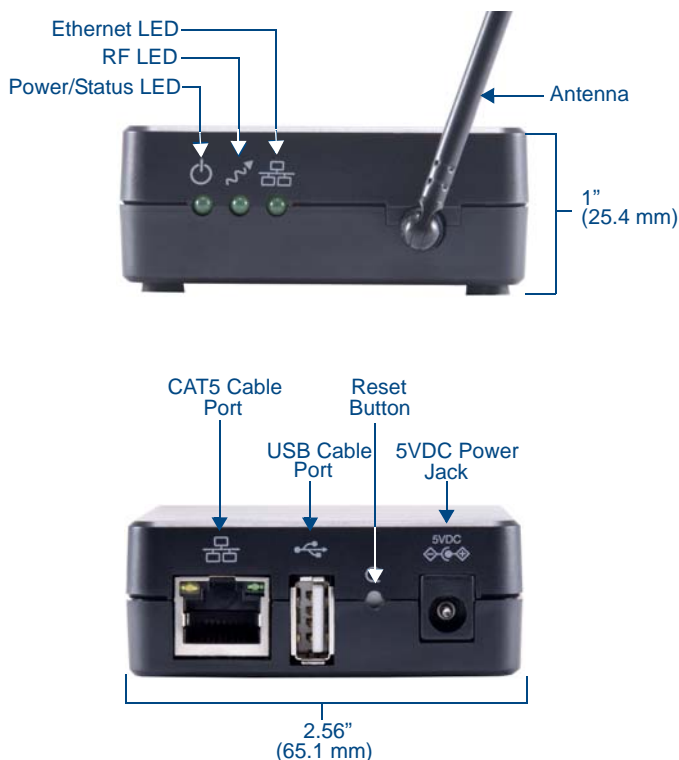

FIG. 1 NXB-CCG-K ClearConnect Wireless Gateway
1. Press and hold the **Reset** button (FIG. 1) on the device for 20 seconds.